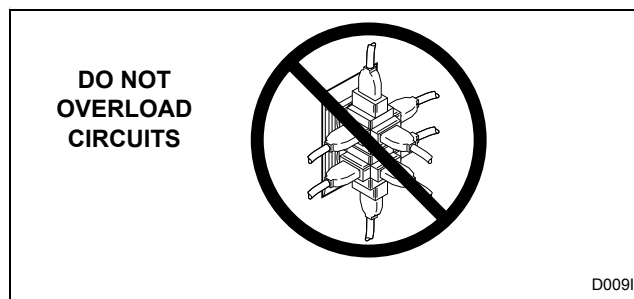

Figure 22
- DO NOT OPERATE OTHER APPLIANCES ON THE SAME CIRCUIT WHEN THIS APPLIANCE IS OPERATING. DO NOT OVERLOAD CIRCUITS! Refer to *Figure 22*.